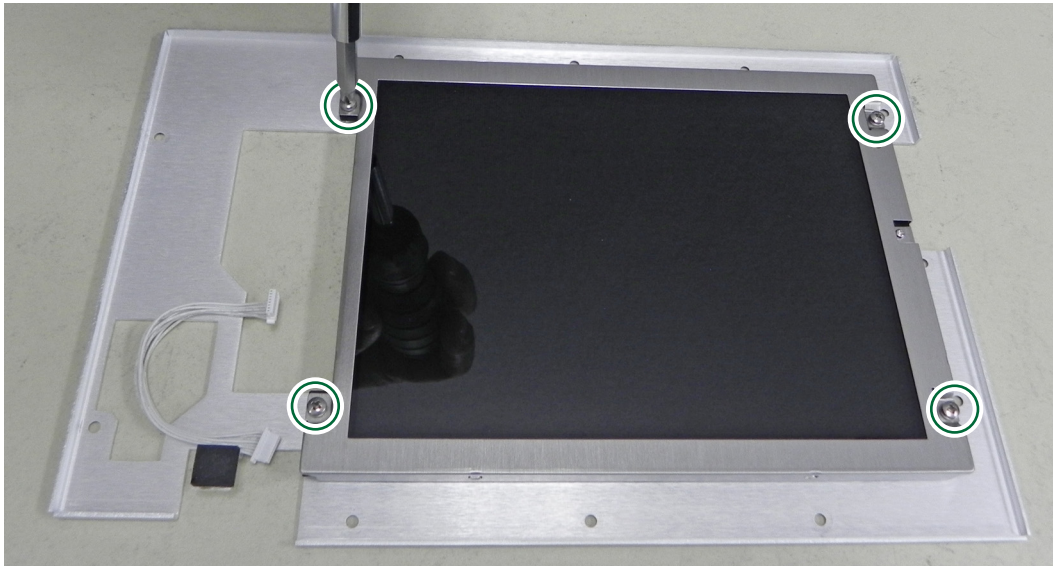

Figure 5-32. Replace LCD
11. Remove the 4 screws holding the LCD Display to the bracket (Figure 5-32).